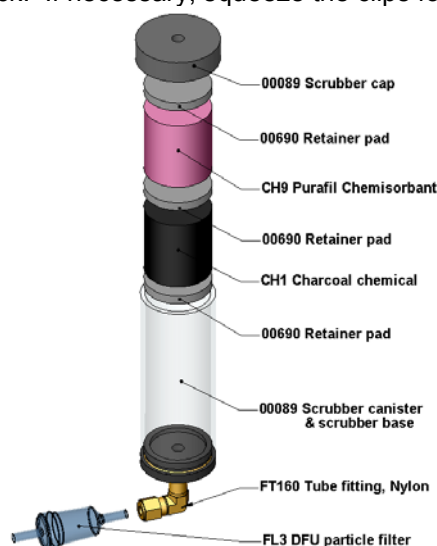

Figure 9-4: Zero Air Scrubber Assembly
1. Locate the scrubber on the outside rear panel. Figure 3-4 shows the location, Figure 9-4 the exploded assembly.
5. Refill the scrubber with charcoal at the bottom and the Purafil[®] chemical at the top and use three, white retainer pads to separate the chemicals as shown in Figure 9-4.